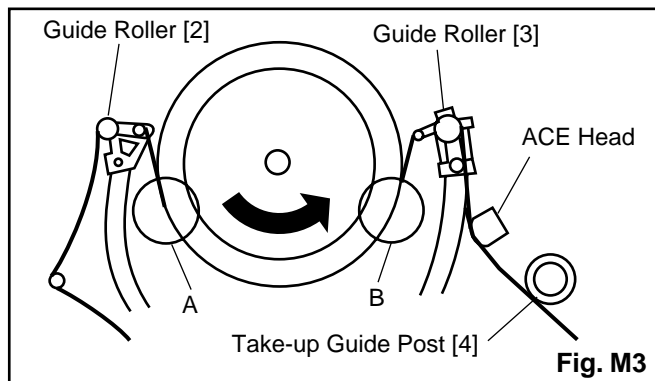

Fig. M3
1. Playback a blank cassette tape and check to see that the tape runs without creasing at Guide Rollers [2] and [3], and at points A and B on the lead surface. (Refer to Fig. M3 and M4.)
2. If creasing is apparent, align the height of the guide rollers by turning the top of Guide Rollers [2] and [3] with a Guide Roller Adj. Screwdriver. (Refer to Fig. M3 and M5.)
3. Check to see that the tape runs without creasing at Take-up Guide Post [4] or without snaking between Guide Roller [3] and ACE Head. (Fig. M3 and M5)
2. Playback the Gray Scale on the Test Tape (FL6NS8). Set the Tracking Control Circuit to the preset position by pressing CH UP button and then "PLAY" button on the unit. Adjust the height of Guide Rollers [2] and [3] (Fig. M3, Page 2-3-3) watching the oscilloscope display so that the envelope becomes as flat as possible. To do this adjustment, turn the top of the Guide Roller with the Guide Roller Adj. Screwdriver.
3. If the envelope is as shown in Fig. M7, adjust the height of Guide Roller [2] (Refer to Fig. M3) so that the waveform looks like the one shown in Fig. M9.
4. If the envelope is as shown in Fig. M8, adjust the height of Guide Roller [3] (Refer to Fig. M3) so that the waveform looks like the one shown in Fig. M9.
5. When Guide Rollers [2] and [3] (Refer to Fig. M3) are aligned properly, there is no envelope drop either at the beginning or end of track as shown in Fig. M9.
Note: Upon completion of the adjustment of Guide Rollers [2] and [3] (Refer to Fig. M3), check the X Value by pushing the CH UP or DOWN buttons alternately, to check the symmetry of the envelope. Check the number of pushes to ensure preset position. The number of pushes CH UP button to achieve 1/2 level of envelope should match the number of pushes CH DOWN button from center. If required, redo the "X Value Alignment."